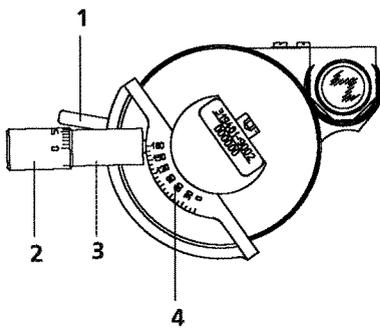

Fig. 23 Astigmatism compensator
- Use detent lever (**1**, Fig. 23) to swing the astigmatism compensating optics into the optical path. By pushing the lever in and swing it upward until it clicks in.